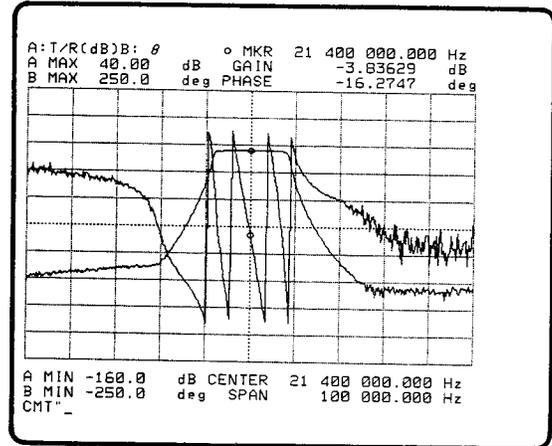

Figure 3-119. COMMENT
2. "CMT" will be displayed on the Keyboard Input Line of the screen as shown in Figure 3-119, and **BLUE** key's lamp will light.